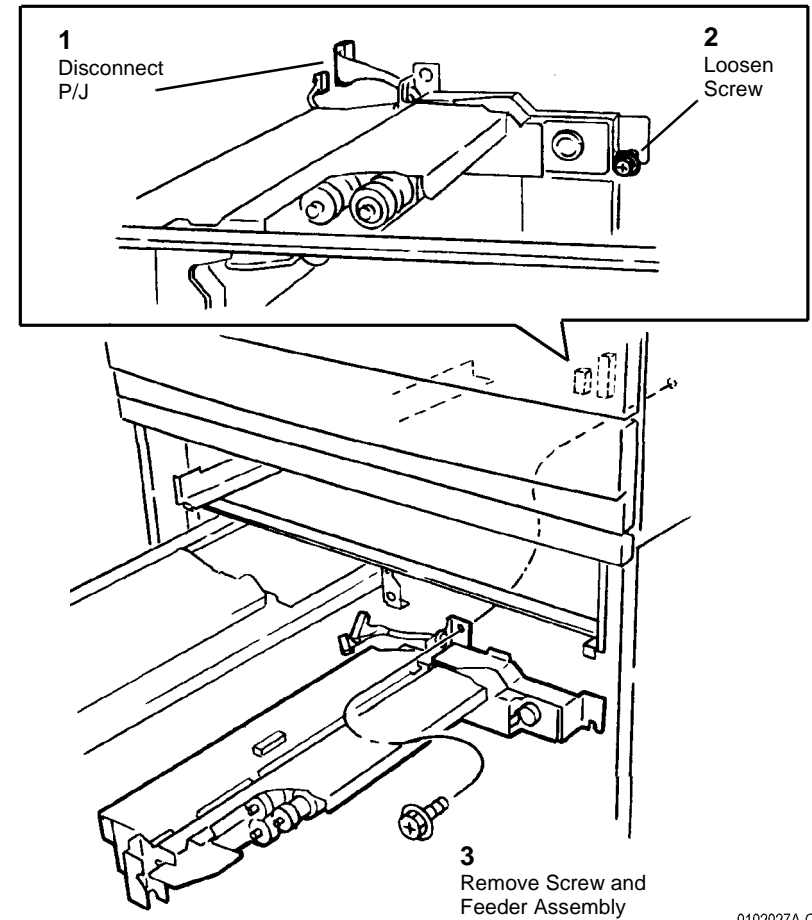

Figure 2 Removing the Tray 4 Feeder Assembly
4. Remove the Tray 4 Feeder Assembly (Figure 2).